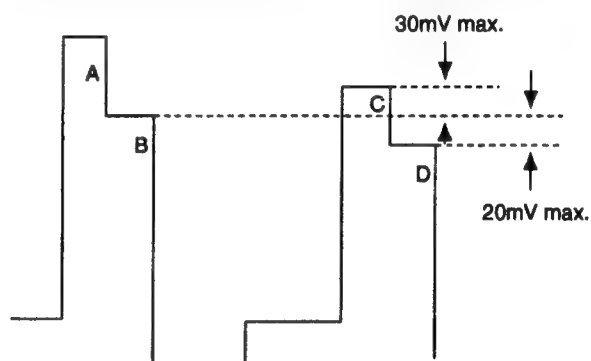

Fig. 5-13
3. Connect the probe of an oscilloscope to IC404 ④ PIN or TP401.
5. Adjust **[R-Y LEVEL COMPONENT]** so that the peaks of waveforms will be flush with each other as shown in Fig.5-13.